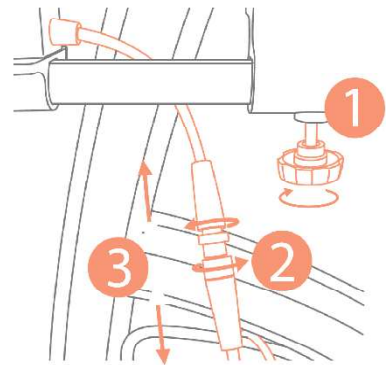

Figure 8
2. Slide the disconnected joystick controller through the hole in the holder (Figure 8).